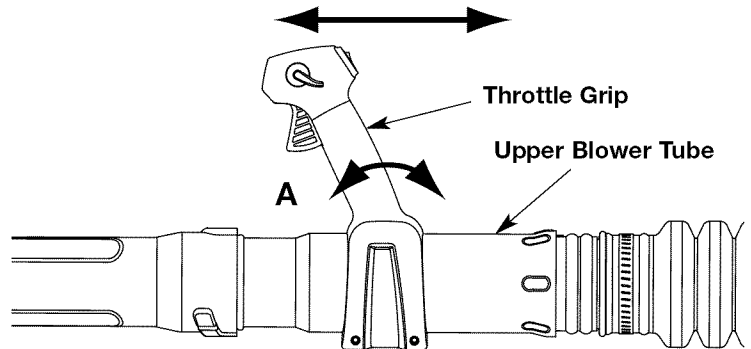

Fig. 8
1. Move the throttle grip to a location on the upper blower tube that is comfortable for you (Fig. 8).